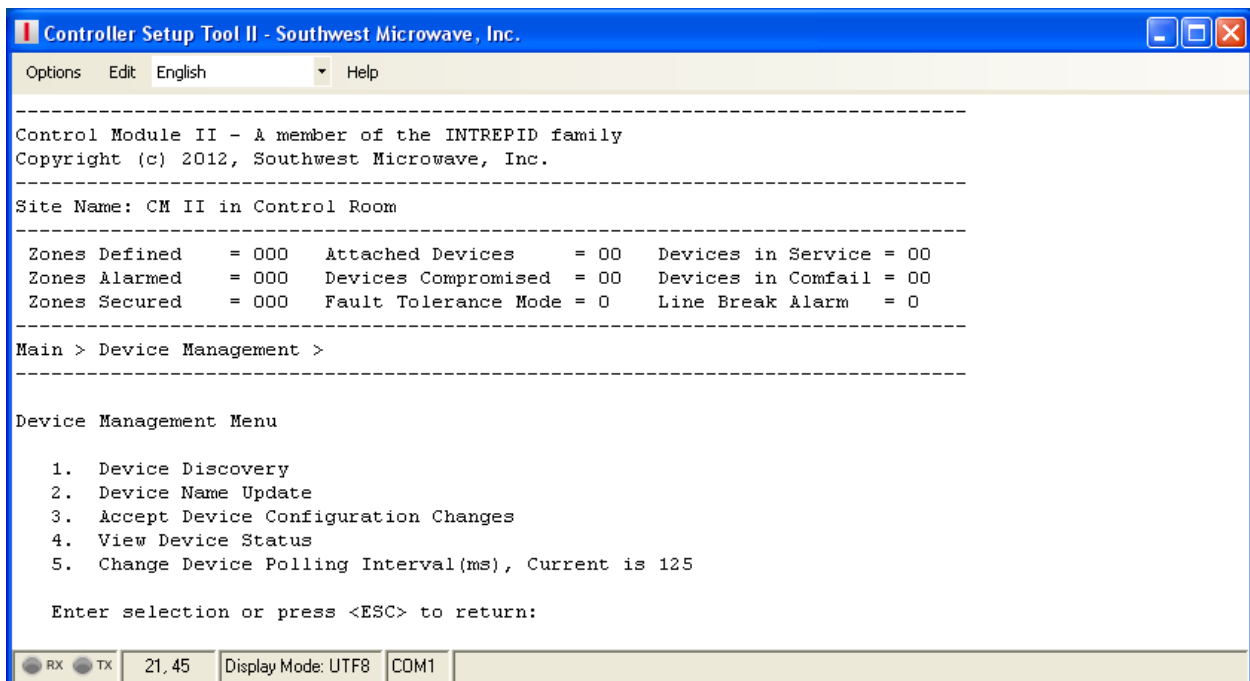

Figure 20 – Device Management Screen
Selecting “2” from the Main Menu will open the “Device Management” menu as shown in Figure 20. There will be five (5) command selections available: